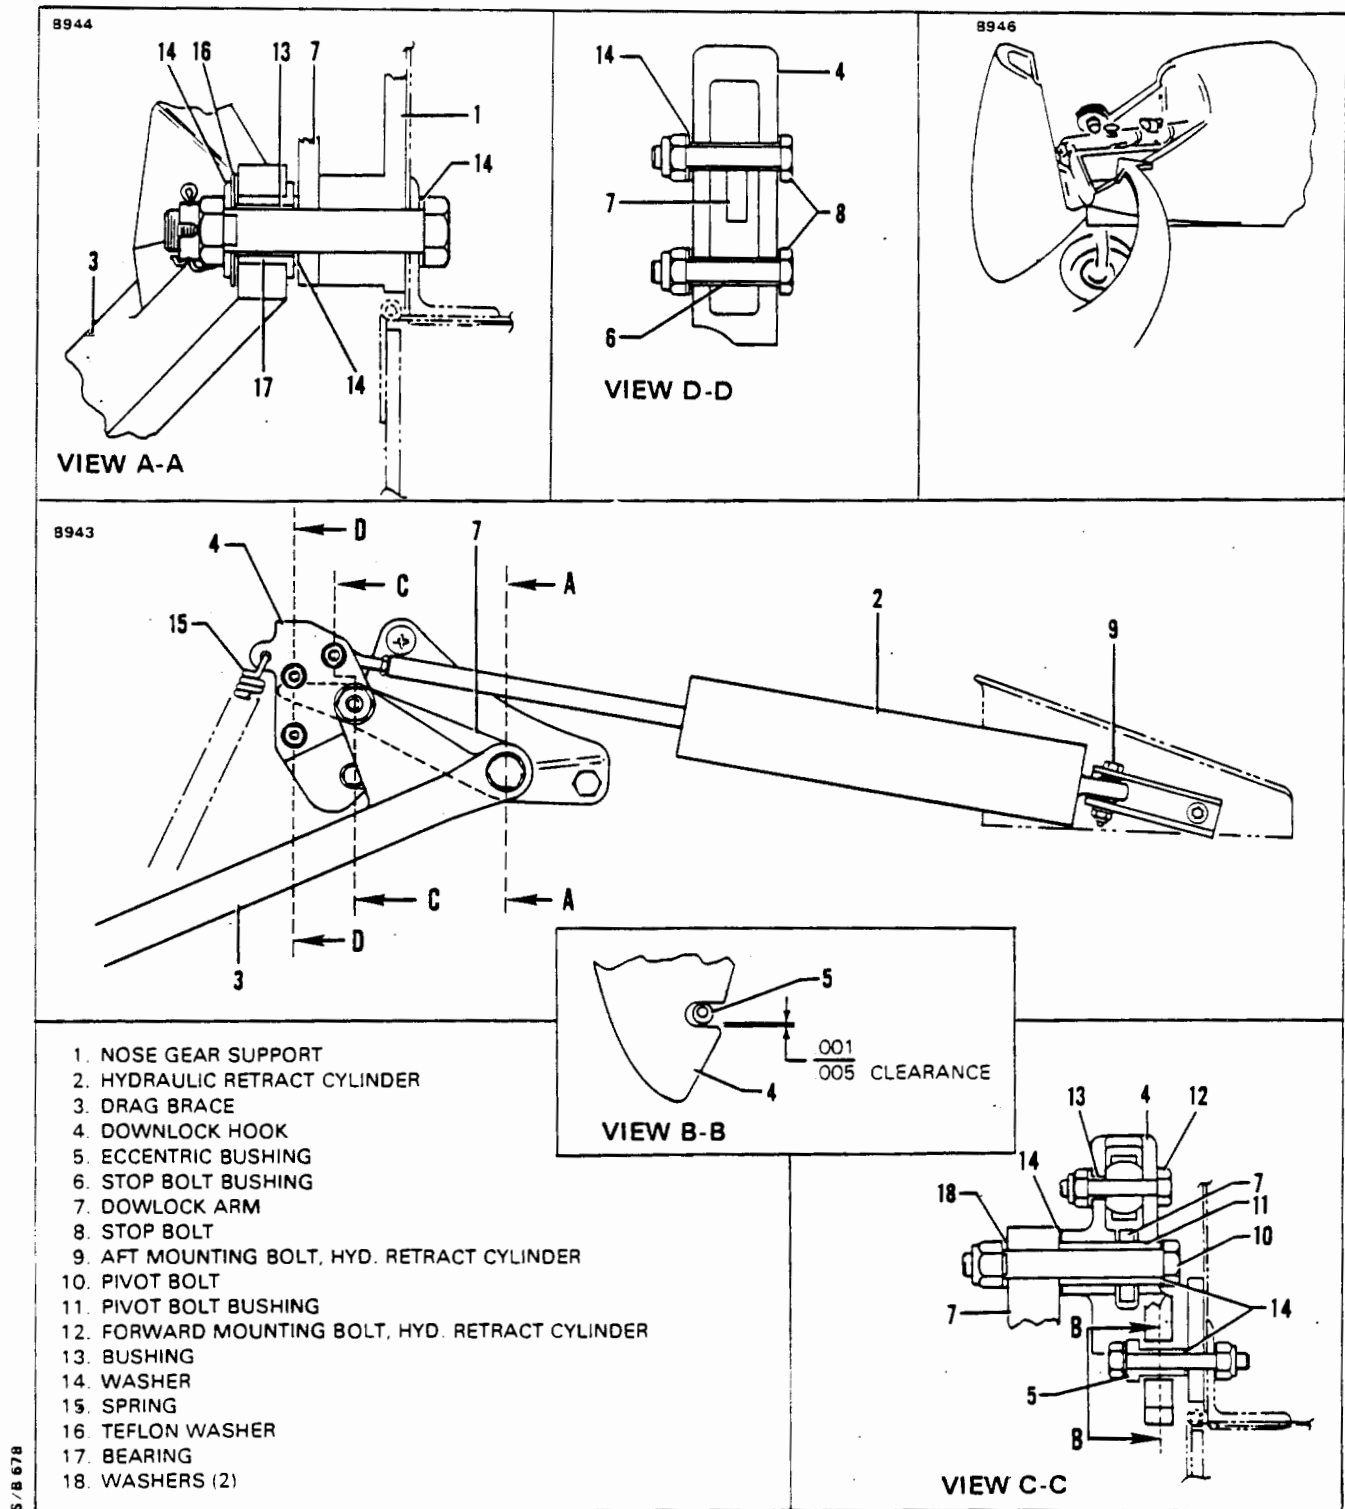

Figure 32-8. Nose Gear Downlock and Eccentric Bushing Installation
REMOVAL OF NOSE GEAR DOWNLOCK AND ECCENTRIC BUSHING. (Refer to Figure 32-8.)
INSTALLATION OF NOSE GEAR DOWNLOCK AND ECCENTRIC BUSHING. (Refer to Figure 32-8.)
1. Install the new eccentric bushing. (Refer to Figure 32-8 for proper assembly.) Since the eccentric bushing will require adjustment do not tighten the bolt in its final torque.